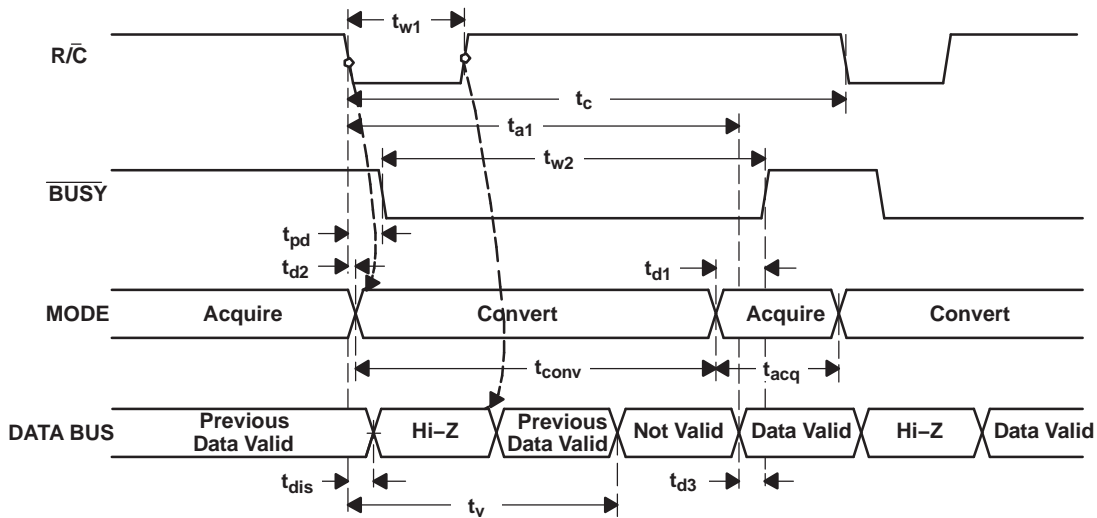
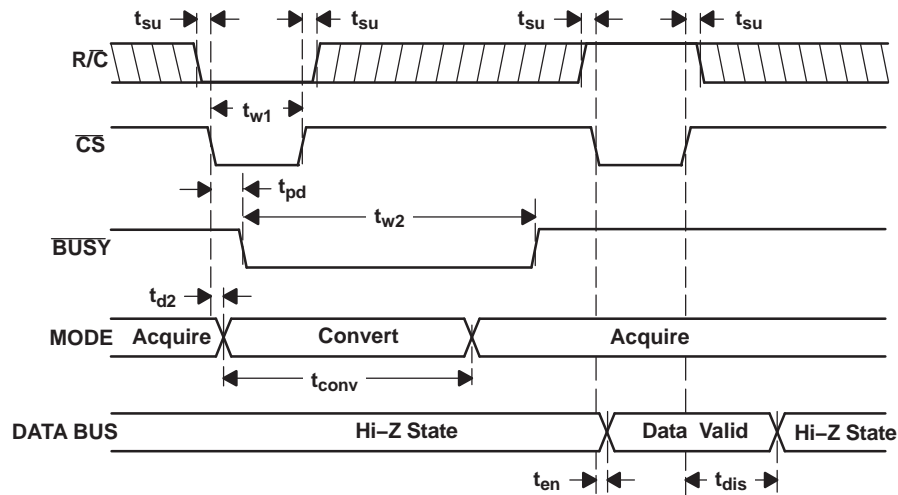
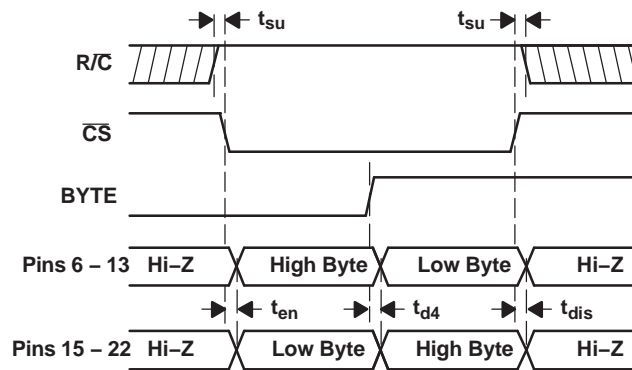

Figure 21. Conversion Timing with Outputs Enabled after Conversion (\overline{CS} Tied Low)
Figure 22. Using \overline{CS} to Control Conversion and Read Timing
Figure 23. Using \overline{CS} and BYTE to Control Data Bus
The ADS8515 begins tracking the input signal at the end of the conversion. Allowing 4 μ s between convert commands assures accurate acquisition of a new signal. Refer to Table 1 for a summary of \overline{CS} , $\overline{R/C}$, and \overline{BUSY} states and Figure 21, Figure 22, and Figure 23 for the timing diagrams.
(1) See Figure 21 and Figure 22 for constraints on data valid from conversion $n - 1$.
After conversion n is completed and the output registers have been updated, $\overline{\text{BUSY}}$ (pin 26) goes high. Valid data from conversion n are available on D15 to D0 (pins 6 to 13 and 15 to 22). $\overline{\text{BUSY}}$ going high can be used to latch the data. Refer to Table 3 and Figure 21, Figure 22, and Figure 23 for timing specifications.
After conversion n has been initiated, valid data from conversion -1 can be read and are valid up to t_2 after the start of conversion n . Do not attempt to read data from t_2 after the start of conversion n until $\overline{\text{BUSY}}$ (pin 26) goes high; this may result in reading invalid data. Refer to Table 3 and Figure 21, Figure 22, and Figure 23 for timing specifications.
The number of control lines can be reduced by tying $\overline{\text{CS}}$ low while using the falling edge of $\overline{\text{R}/\overline{\text{C}}}$ to initiate conversions and the rising edge of $\overline{\text{R}/\overline{\text{C}}}$ to activate the output mode of the converter. See Figure 21.